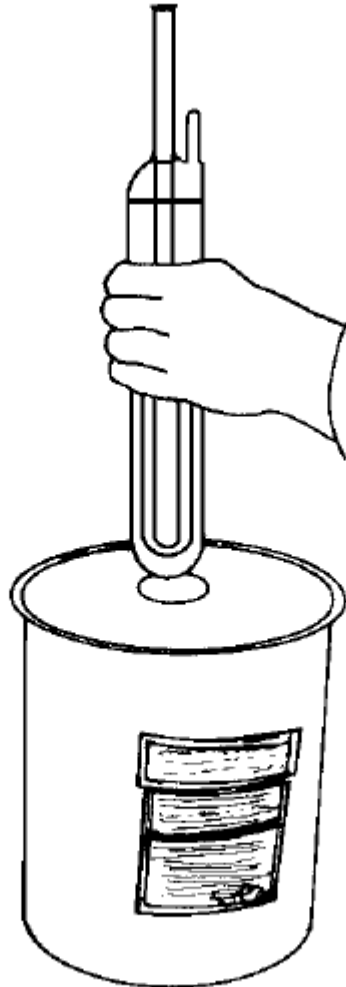
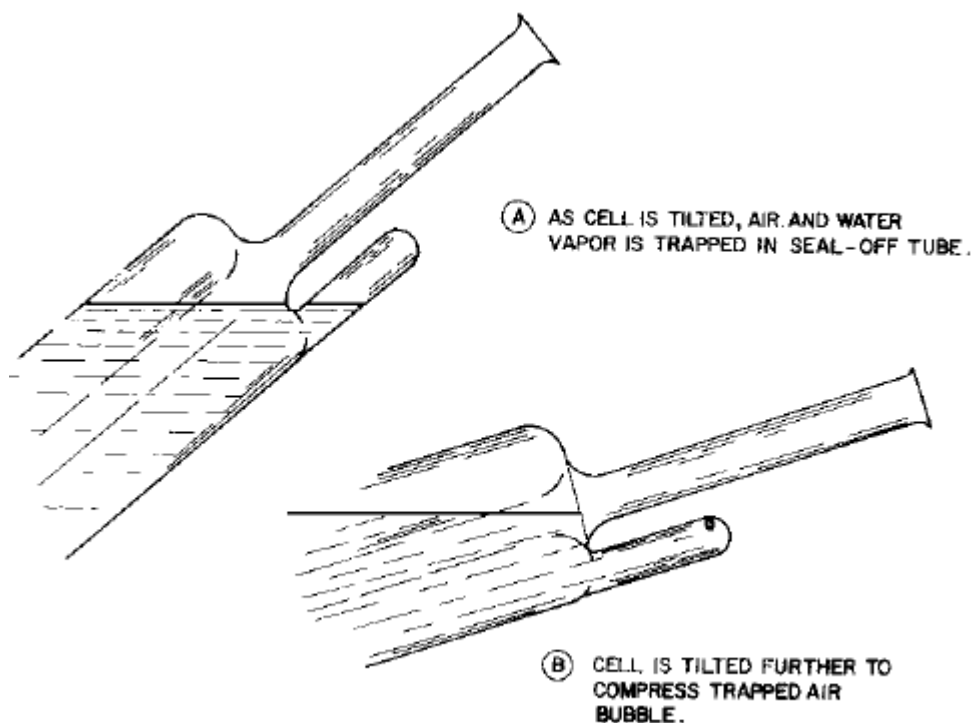

Figure 12. Removing inner glass cell from insulating jacket.
Figure 13. Tilting cell for air bubble test.
(8) OPERATING PRECAUTIONS. The Equiphase Cell should be used in such a manner that a minimum of heat is introduced into the cell from outside sources. Heat may be conducted by thermometer leads or by the body of the thermometer or thermocouples when placed in the well. This may be prevented by packing ice around the upper portion of the well, and by chilling thermometers before insertion. Heat may also be introduced by the power supplied to the platinum resistance element. A self-heating error may be incurred if the thermometer is operated at a current in excess of its calibration current. The glass cell itself is transparent to heat and, if withdrawn from the insulating jacket during operation, (fig. 12) cannot prevent radiant heat from room sources from affecting the thermometer. This can be prevented by keeping the glass cell inside the insulating jacket during operation. In no case will the triple point temperature in the glass cell change. However, if the above precautions are not taken, and heat transfer into the well is permitted, then the temperature of the contents of the well will rise sufficiently to conduct this heat to the ice mantle. Then, in the case of devices such as platinum thermometers in partially evacuated envelopes, deviations of several millidegrees may be observed in the thermometer readings.
(9) TESTING THE EQUIPHASE CELL. The triple point of water is a fixed point, the temperature of which is a matter of definition, and therefore cannot be measured. There are tests, however, which can be used for a qualitative check of the triple point cell.
(b) TEST OF INDIVIDUAL CELL FOR AIR LEAK (See figure 12). Test for air leak by tilting the Equiphase Cell, holding the seal-off tube down. If there is no significant air contamination, an audible "click" is heard, and the bubble trapped in the seal-off tube will diminish in volume by a factor of three or more as the cell is tilted slowly to further compress the bubble. A 3 to 1 reduction in the volume of the trapped air bubble means that the freezing point is lowered less than 50 microdegrees, a figure within the Equiphase Cell guarantee of $.0005^{\circ}\text{C}$ by a factor of 10. In most cases the reduction in bubble size will be much greater than 3 to 1 (see figure 13).